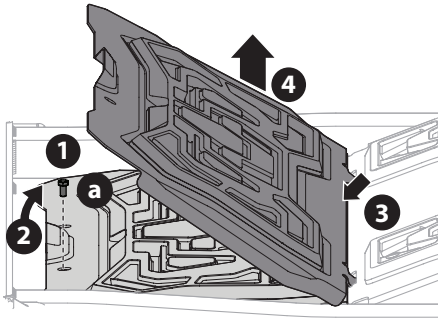

Figure 32
1. Using the multi-tool or a 1/2-inch socket, remove the hex screw (a) that secures the floor panel in place (Figure 32).
2. Carefully lift the rear of the floor panel (Figure 32).
3. Slide the floor panel rearward to free the front of the floor panel (Figure 32).
4. Lift it off the tractor (Figure 32).